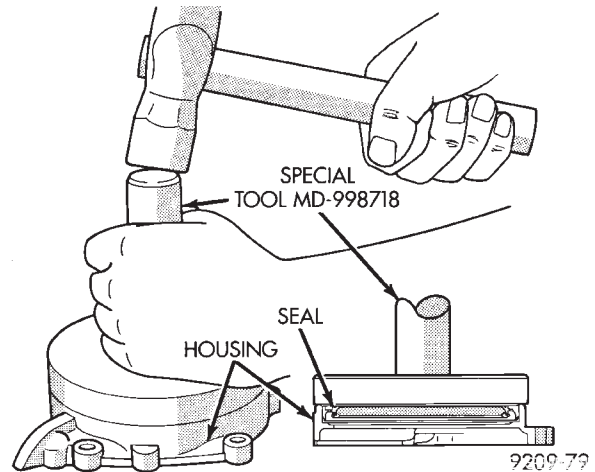

Fig. 73 Install Crankshaft Rear Oil Seal
- (1) Install rear crankshaft oil seal in housing with Special Tool MD998718 (Fig. 73).